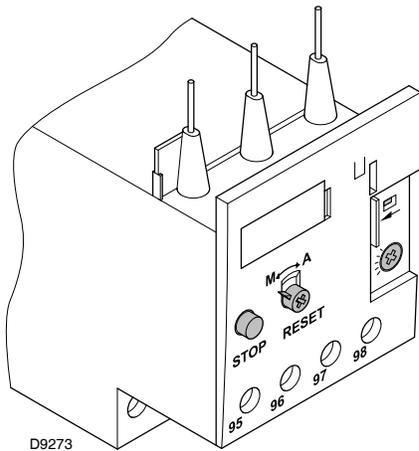

Fig. 27
The electro-mechanical thermal relay (Fig. 27) is used to avoid damage to the motor owing to a strong increase in absorption or the lack of a phase.
- To reset, in the case of an intervention of the thermal relay, press the button "RESET" (Fig. 27).
- The button "STOP" (Fig. 27) opens the NC (95-96) contact and stops the motor.